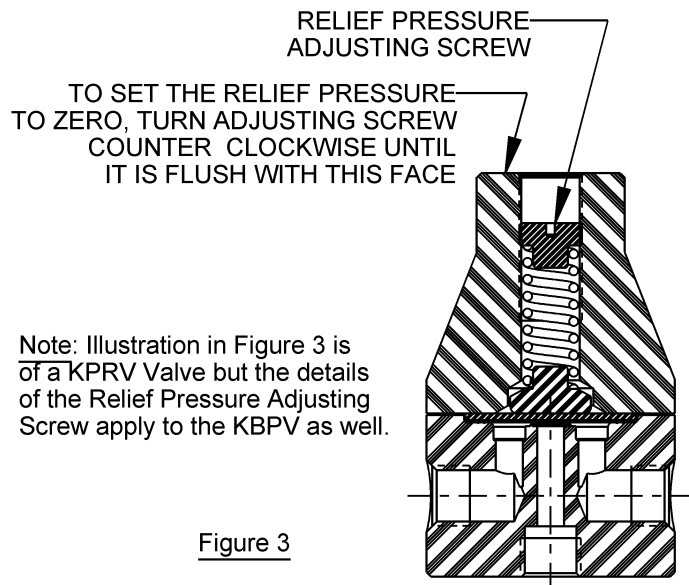

Figure 3
Adjusting the pressure of the KPRV and KBPV valve is accomplished by turning the Relief Pressure Adjustment Screw (see figure 3). When adjusting the relief pressure of the KPRV or KBPV valve, it is recommended to start the adjustment with the relief pressure set to zero. This is accomplished by turning the adjustment screw counter clockwise until it is flush with the top of the valve.
1. The first step in the adjustment process is to set the relief pressure to zero. As noted above and in Figure 3, turn the adjusting screw counter clockwise until the screw is flush with the top of the valve.
1. Set the relief pressure of the KPRV valve to zero. As noted above and in Figure 3, this is accomplished by turning the Relief Pressure Adjusting Screw counter clockwise until the screw is flush with the top of the valve.